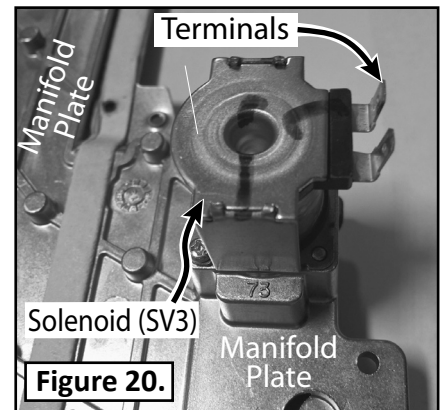

Figure 20.
- 4.8 Unplug the wire connectors at the solenoid valve (SV3); the solenoid valve is attached to the corner of the manifold plate. See Figure 20.